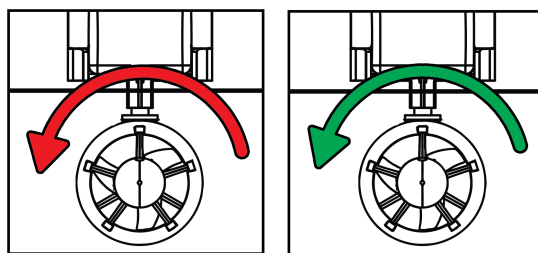

Figure 25: HyDrone™ ASV Servo Prop Rotation
- Motor must rotate counterclockwise(CCW) (Figure 25)